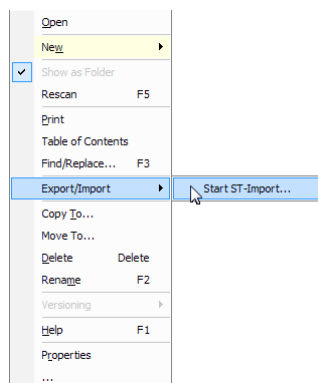

Figure 151: Importing KNX types in logi.CAD.
6. Select **Export/Import** → **Start ST-Import** from the context menu of the newly created library, as shown in Figure 151.